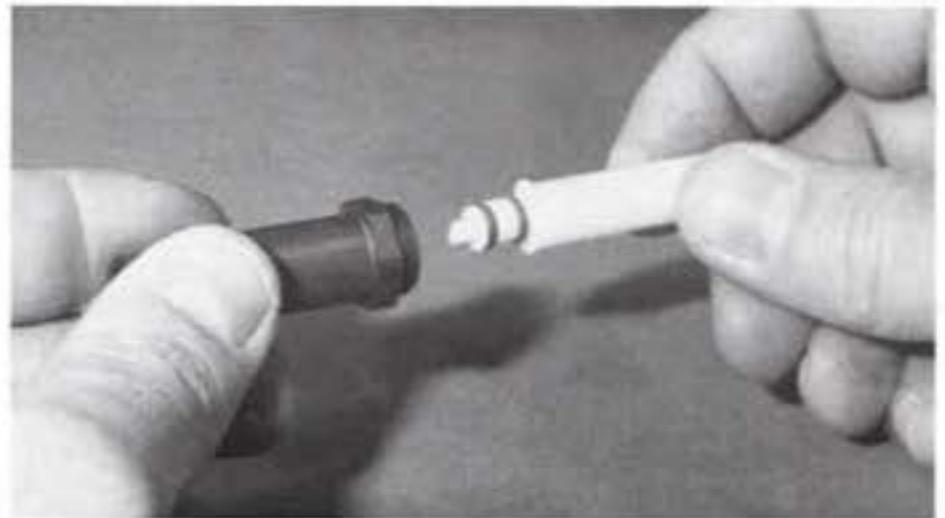

Fig. 119
❑ **Fig. 119** (1) Take one of the shock bodies and the shock tool, with the internal parts on it, and slowly insert the tool into the shock body until it bottoms out. If everything goes in smoothly, the tip of the shock tool will be even with or just slightly out of the bottom of the shock body. If it isn't, you may need to rotate the shock body to help it seat the parts the rest of the way into the shock cavity. (2) Now stand the shock tool on your workbench, with the shock body on top, and firmly push down on the shock body until you hear and feel the split washer snap into its groove. You may have to push hard before it will go in. (3) When properly installed, the end of the shock tool should be sticking out the bottom of the shock about 1/8". (4) Once the parts have been properly snapped into place, pull the tool out. (5) Look inside the shock body for any obvious signs that the parts did not go together correctly. **MAKE SURE THE WASHER IS FULLY SEATED IN ITS GROOVE.** If the parts are not seated correctly, the shock will leak or even come apart internally. (6) Go ahead and repeat the same steps for the other three shock bodies.